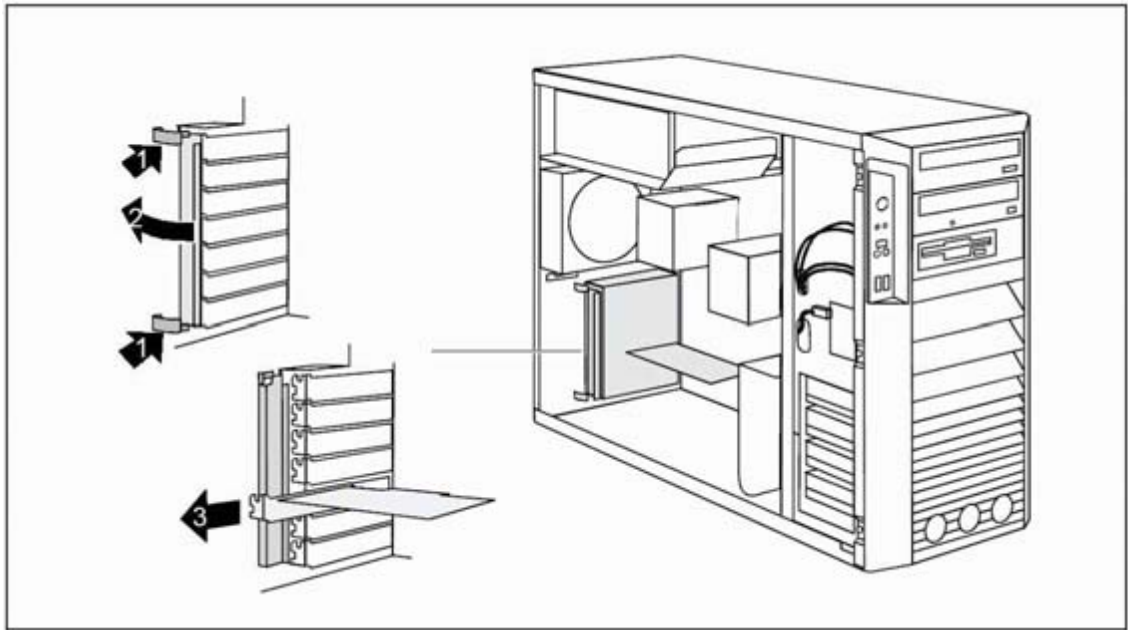

Fig. 62: Replacing a PCI board M450_
7. Press down on the clips (1/ Fig. 62 / p. 107) in the direction of the arrow and unhook them from the casing rear panel.
8. Open up the locking rail in the direction of the arrow (2/ Fig. 62 / p. 107).
10. Remove the board from the slot (3/ Fig. 62 / p. 107)